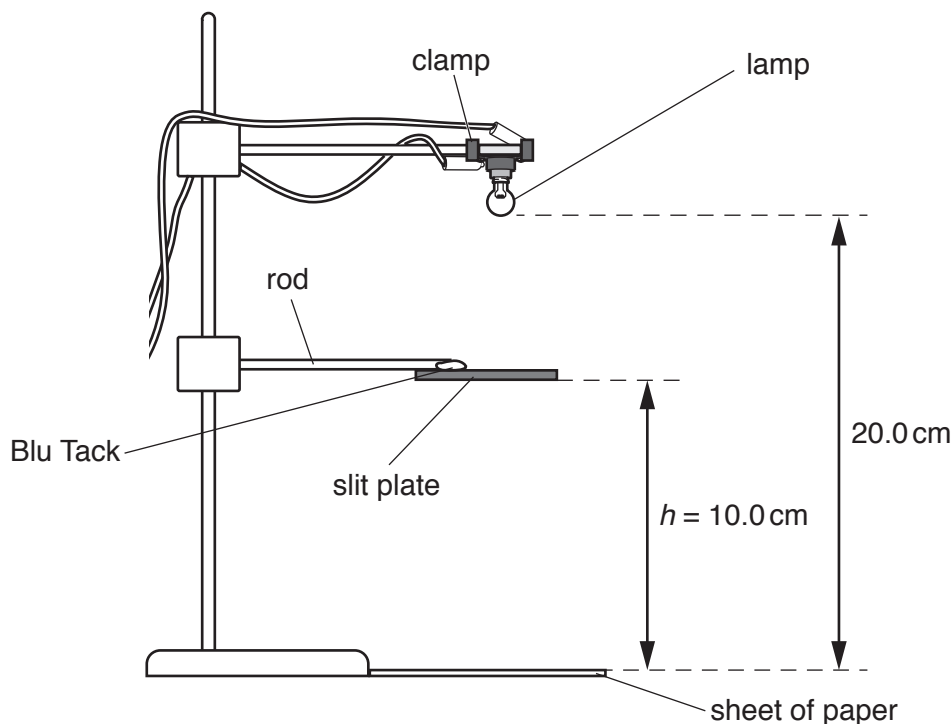

Fig. 4.1
1. Small torch lamp of approximate diameter 1 cm, 2.5 V, 250 mA, filament indicator lamp, clear, e.g. RS 106-313. It must be placed in a small holder e.g. RS 171-2603 so that it can be gripped by the clamp. The clamp should be fastened to the stand so that the bottom of the lamp is 20 cm above the paper, as shown in Fig. 4.1. Spare lamps must be available. The lamp must be connected to the power source in series with the switch.
At the changeover the supervisor must ensure that the apparatus is returned to the arrangement shown in Fig. 4.1 and check that the lamp and cells (if cells have been used) are still operational. The sheet of paper should also be replaced if the candidate has made notes or marks on it.